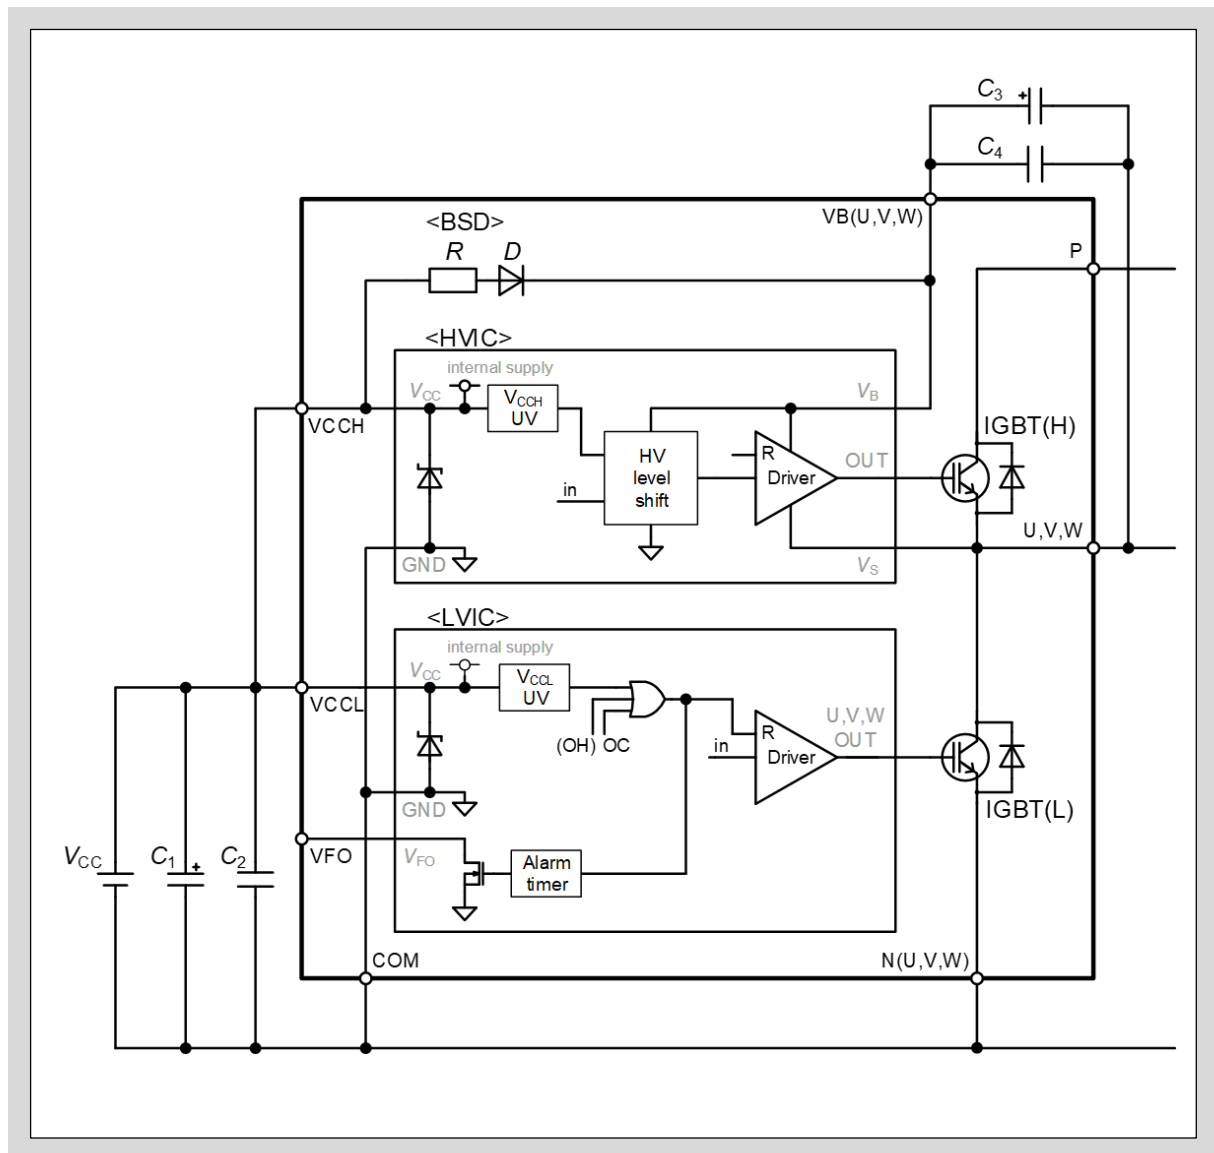

Fig.3-1 UV protection circuit of VCCH, VCCL
- Fig.3-1 shows the UV protection circuit of VCCH and VCCL.
- As shown in Fig.3-1, a diode is connected between VCCH-COM and VCCL-COM terminals. The diode is connected to protect the Small IPM from the input surge voltage. Do not use the diode for voltage clamp purpose otherwise the product might be damaged.